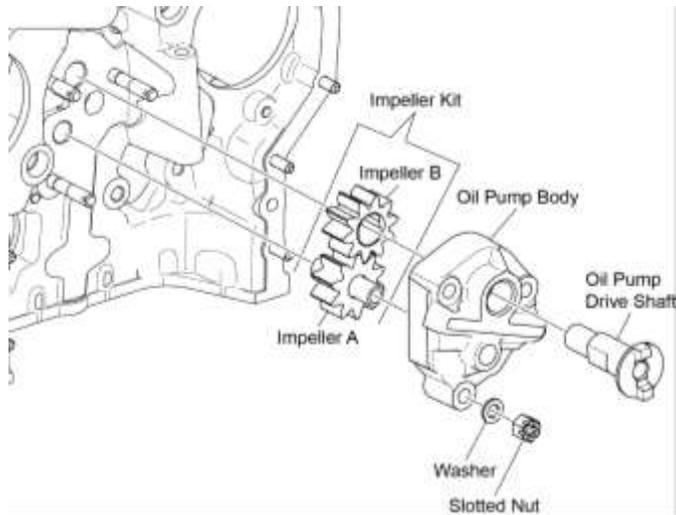

Figure 4
- D. Remove the oil pump drive shaft from impeller B (Figure 4) on the oil pump.
- B. Install impellers A and B in their respective compartments in the oil pump body (Figure 4).
- C. Install the oil pump drive shaft into the oil pump body and through impeller B (Figure 4).
- NOTICE:** When installing the accessory housing, if necessary, turn the crankshaft to enable the tangs on the oil pump drive shaft (Figure 4) to correctly align with the slots in the crankshaft gear (Figure 5).